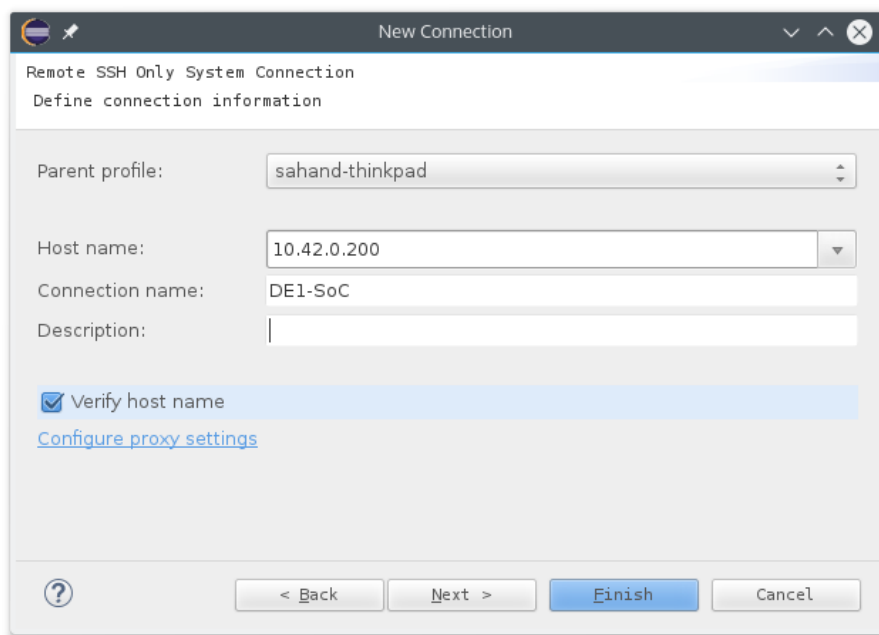

Figure 13-17. New SSH Only Connection
71. Enter “DE1-SoC” as the “Connection name”. You should have something similar to Figure 13-17.